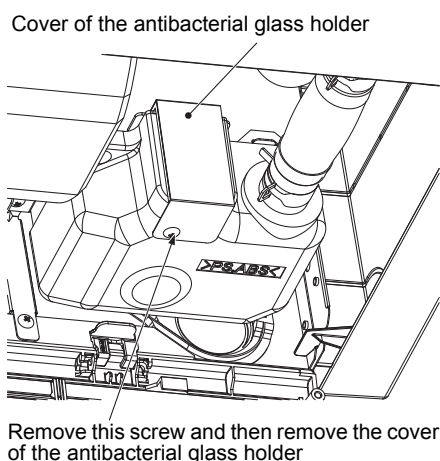

Fig.1
- 2** The cover of the antibacterial glass holder has a hook, lift the cover up as you remove it. (Refer to Fig.1 and Fig.2)